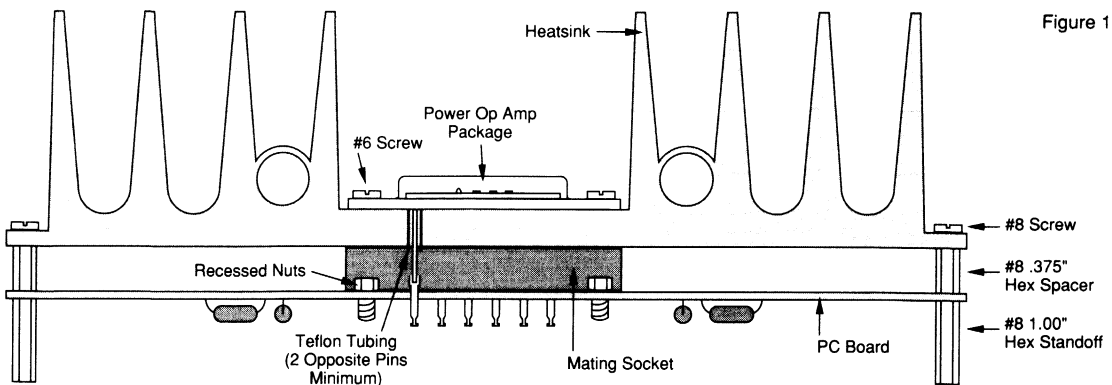

Figure 1
3. Solder the socket in place (Figure 1). Be sure the nuts are in the recesses prior to soldering.